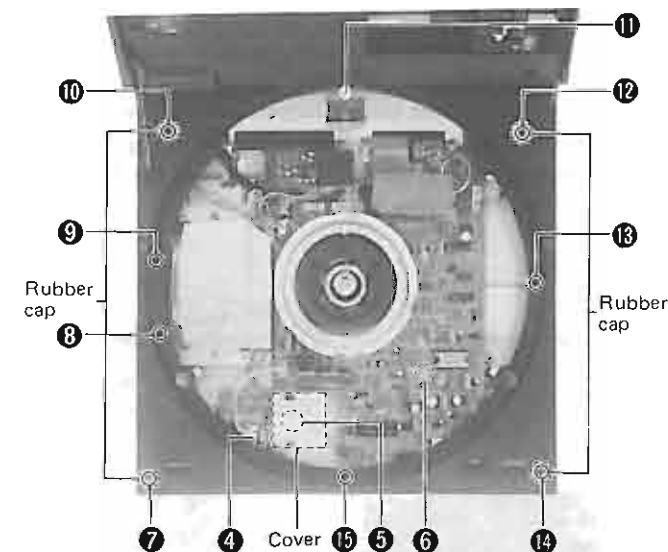

Fig. 7
3. Remove the cover of the power source P.C.B. and detach the connectors ④ and ⑤ from the connector ⑥ of the drive P.C.B. (See Fig. 7)
4. Remove the 4 rubber caps of the body cover; remove the body cover setscrews ⑦ ~ ⑮; then the body cover can be removed. (See Fig. 7)